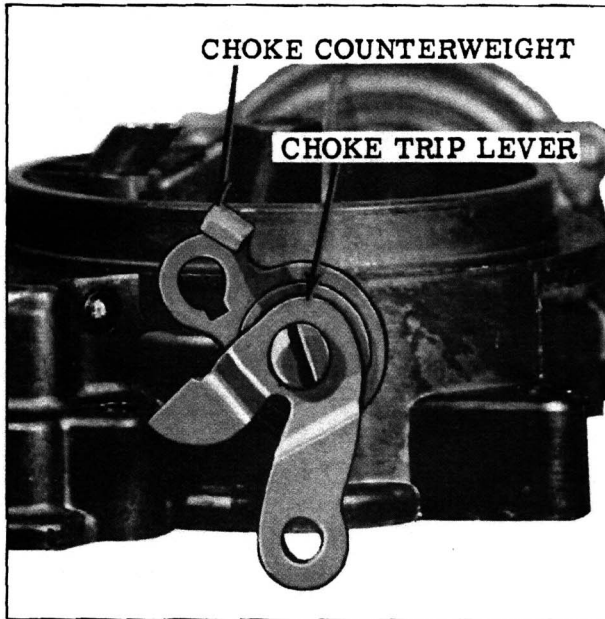

Fig. 29 Choke Counterweight and Trip Lever
4. Install choke counterweight lever over shaft and install trip lever with attaching screw in position shown. (See Fig. 29)